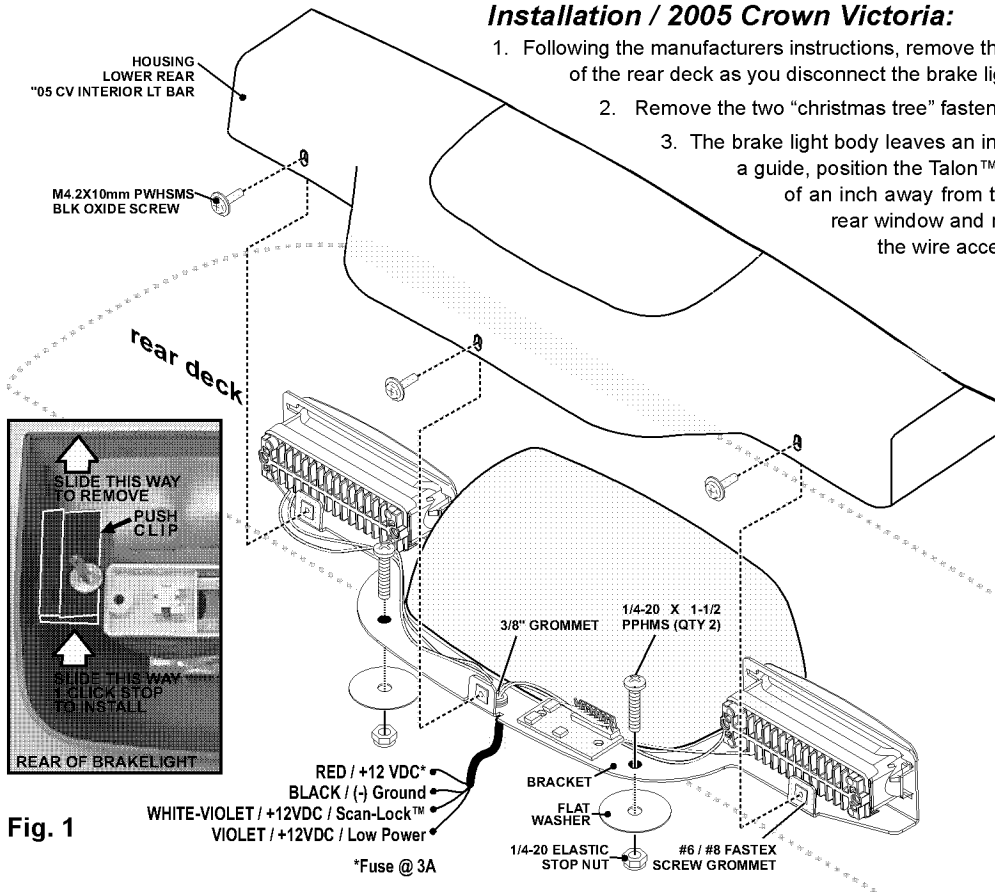

Fig. 1
5. Slide the 2 push clips off of the center brake light then slide them back on until they click once (fig. 1). Reconnect and reinstall the rear brake light.